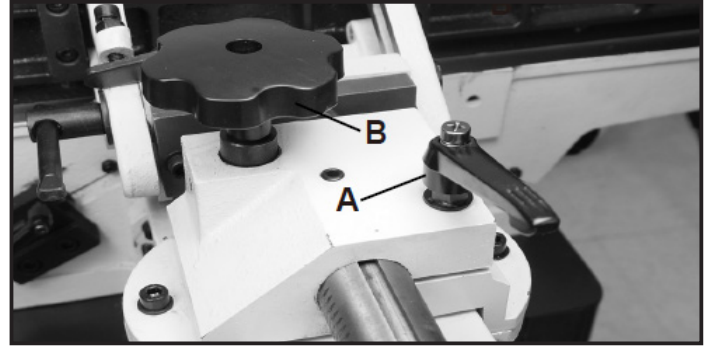

FIG.6.6.1
- To move the fence across the table, loosen the lock lever (A), then turn the knob (B) until the fence is in the desired position on the table and then retighten the lock lever. FIG. 6.6.1.